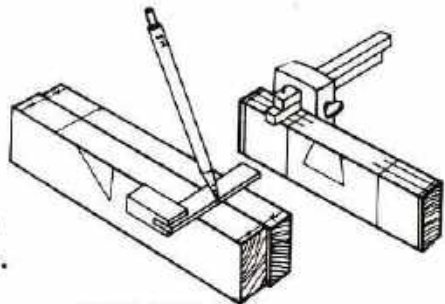

Fig. 425. LAYING OUT A MORTISE
1. Mark and square up to the given dimensions, the pieces that are to be joined. Fig. 425